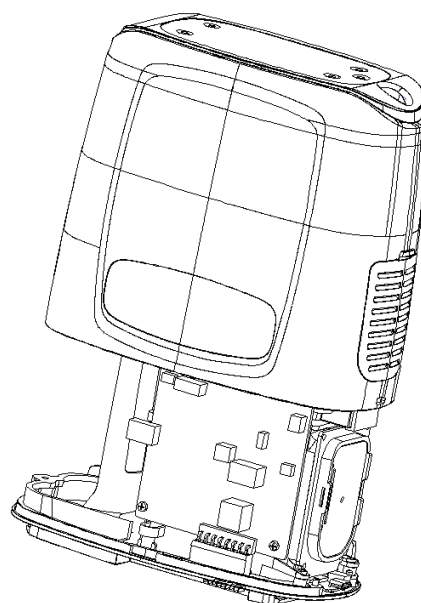

Figure 13 Replace the main shell body (2)
2. Grasp the main shell assembly and gently pull it upwards (Refer to Figure 13).